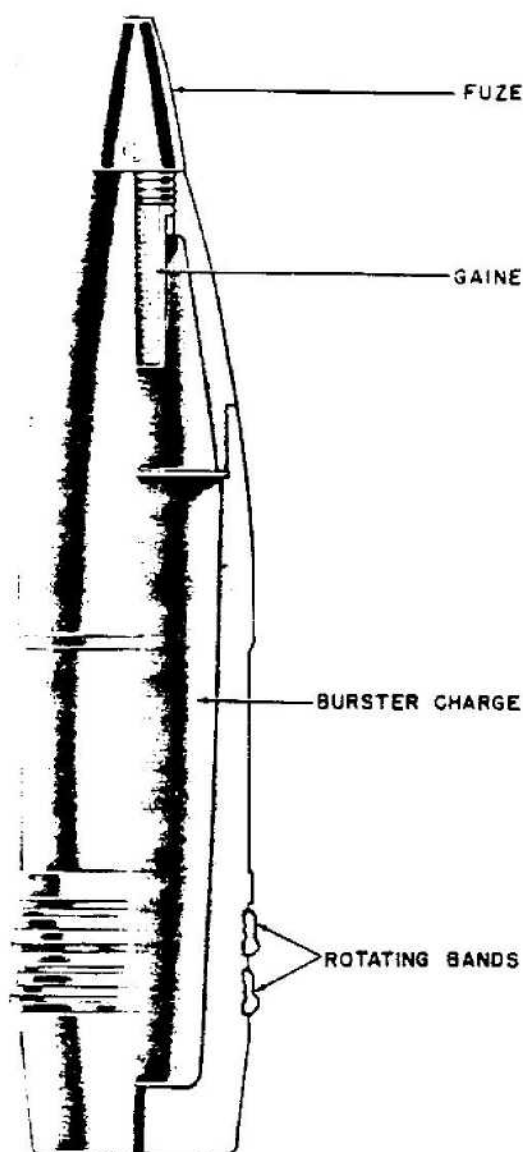

Figure 501—H. E. Projectile, Type 18, 150-mm, 15-cm K. Gr. 18
**GERMAN NOMENCLATURE:** 15-cm K. Gr. 18 (Kanone Granate 18). (See fig. 501.)
- 15-cm K. (E) (Kanone [Eisenbahn] Gun [Railway]).